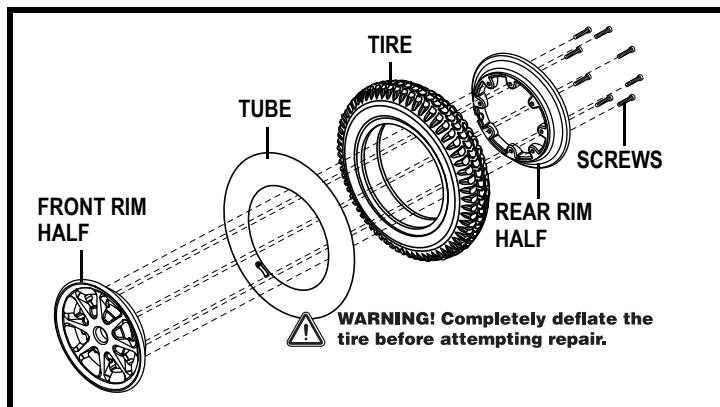

Figure 21. Quantum Jazzy 1650 Drive Wheel Disassembled
6. Remove the screws from the rim assembly and separate the front and rear rims. See **figure 21**.